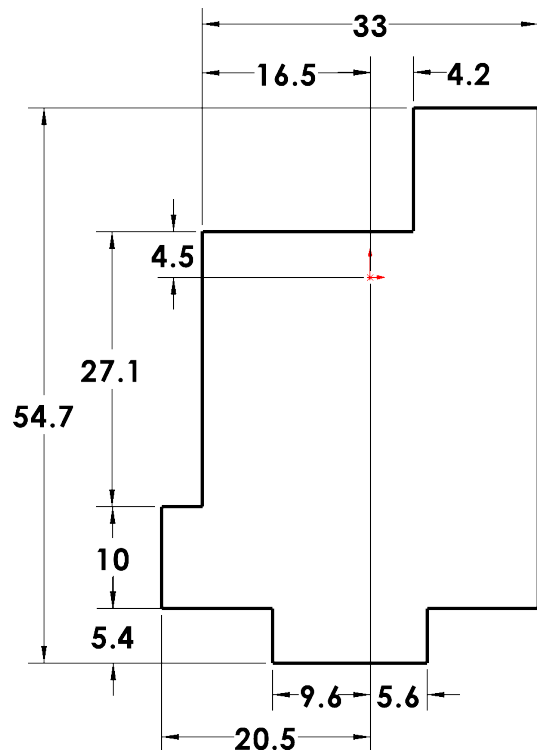
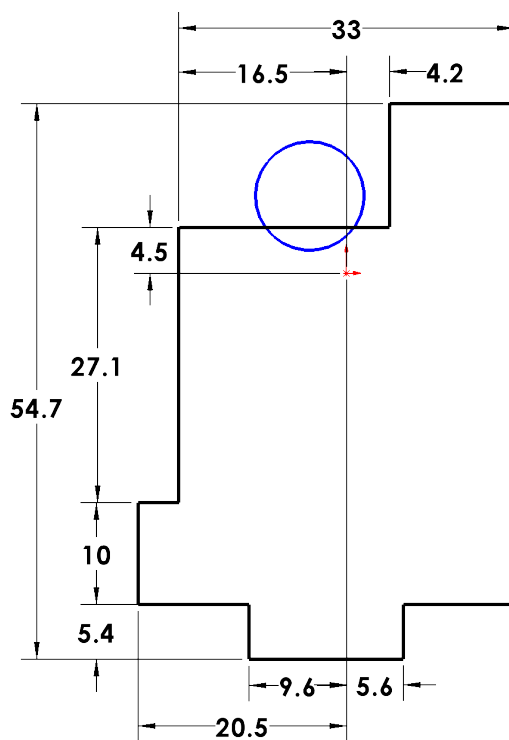

Fig. 4
Fig. 5
Step 7. Click **Smart Dimension**  (S) on the Sketch toolbar.
Step 8. Add dimensions, **Fig. 4**.
Step 9. Click **Circle**  (S) on the Sketch toolbar.
Step 10. Sketch **circle above Origin** , **Fig. 5**.